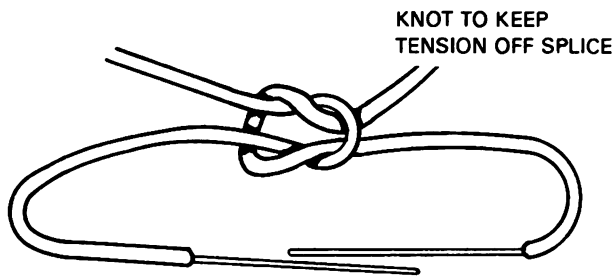

Figure 5.
(3) Whenever possible, insulate splices from the ground or other conductors by wrapping them with friction tape or other electrical insulating tape. This is particularly necessary when splices are placed under wet tamping. Circuit splices, not taped or insulated, should not lie on moist ground. The splices should be supported on rocks, blocks, or sticks so that only the insulated portions of the wires touch the ground. They may also be protected by inserting them into cardboard cap spools which may be bent to hold the splice firmly inside.
(4) Splices may be protected from damage from pull by tying the ends in an overhand or square knot, allowing sufficient length for each splice (figure 5).